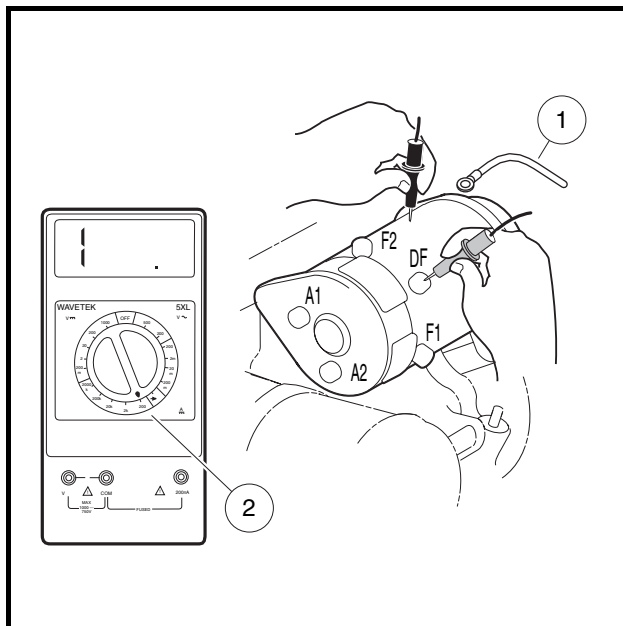

Figure 12-13 Check Starter Terminal Continuity
3. Disconnect the wires from all the terminals on the starter/generator. Then place the black (–) probe of a multimeter, set to 200 ohms, on the starter/generator housing (scratch through the finish to ensure a good ground). While holding the black (–) probe against the housing, place the red (+) probe (one at a time) on the A1, A2, F1, F2 and DF terminals respectively (**Figure 12-13, Page 12-17**). The readings should be no continuity. If the readings are incorrect, the starter/generator will need to be removed from the vehicle and disassembled by a qualified technician. See **Starter/Generator Removal on page 14-1.**